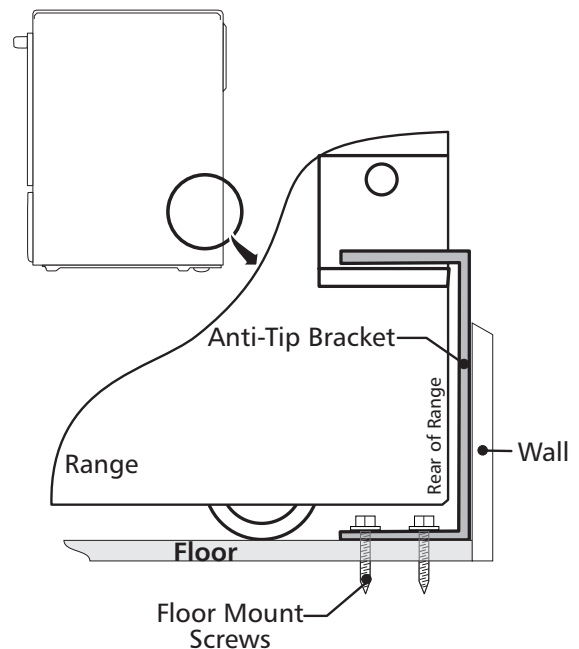

Figure 7
4. Remove template and place bracket on floor. Line up holes in bracket with marks on floor and attach with 4 screws provided. Bracket must be secured to solid floor (Figure 7). If attaching to concrete floor, first drill 3/16" (0,48 cm) dia. pilot holes using masonry drill bit.
6. Slide range into place making sure structure of the range is trapped by the anti-tip bracket (Figure 7). Lower the range by adjusting the 4 leveling legs until the underside of the cooktop is sitting level on the countertop. Refer to "Leveling the Range" section.